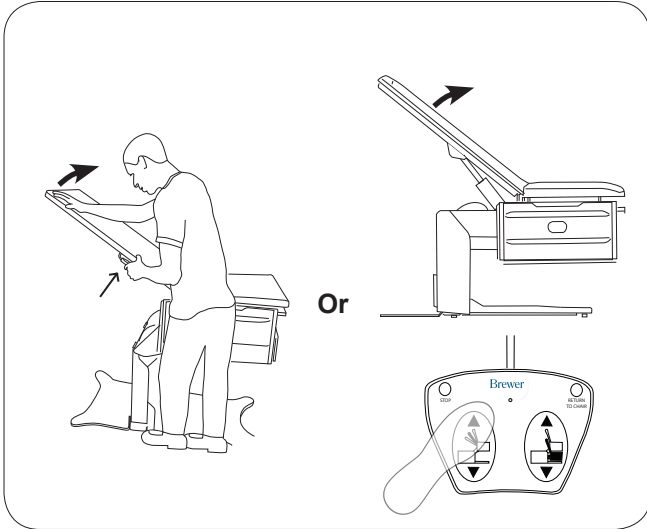

Figure 11. Raise Backrest
12. Raise the backrest to its full up position (Figure 11).